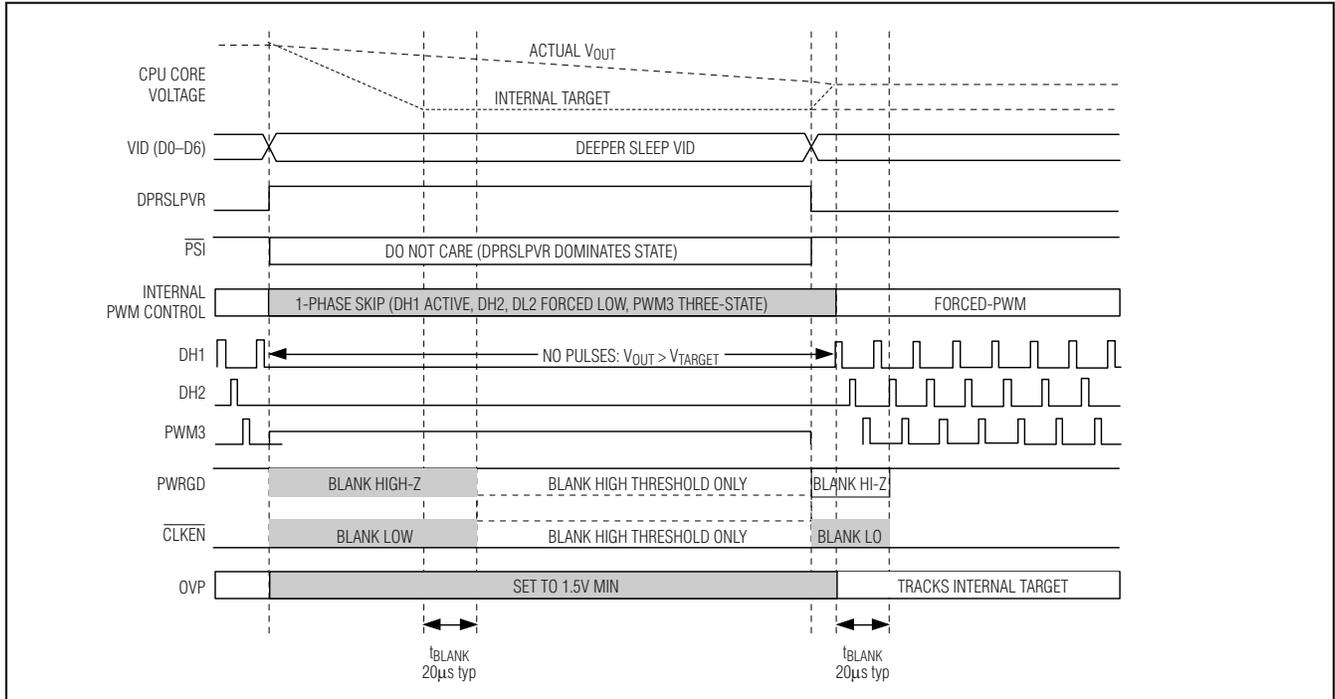

Figure 5. C4E (C4 Early Exit) Transition
When DPRSLPVR goes high, the MAX17030/MAX17036 immediately disable phases 2 and 3 (DH2, DL2 forced low, PWM3 three-state, $\overline{\text{DRSKP}}$ low), and enter pulse-skipping operation (see Figures 5 and 6). If the VIDs are set to a lower voltage setting, the output drops at a rate determined by the load and the output capacitance. The internal target still ramps as before, and PWRGD remains blanked high impedance until 20 μs after the output voltage reaches the internal target. Once this time expires, PWRGD monitors only the lower threshold:
- **Fast C4E Deeper Sleep Exit:** When exiting deeper sleep (DPRSLPVR pulled low) while the output voltage still exceeds the deeper sleep voltage, the MAX17030/MAX17036 quickly slew (50mV/ μs min regardless of R_{TIME} setting) the internal target voltage to the DAC code provided by the processor as long as the output voltage is above the new target. The controller remains in skip mode until the output voltage equals the internal target. Once the internal target reaches the output voltage, phase 2 is enabled. The controller blanks PWRGD and $\overline{\text{CLKEN}}$ (forced high impedance) until 20 μs after the transition is completed. See Figure 5.